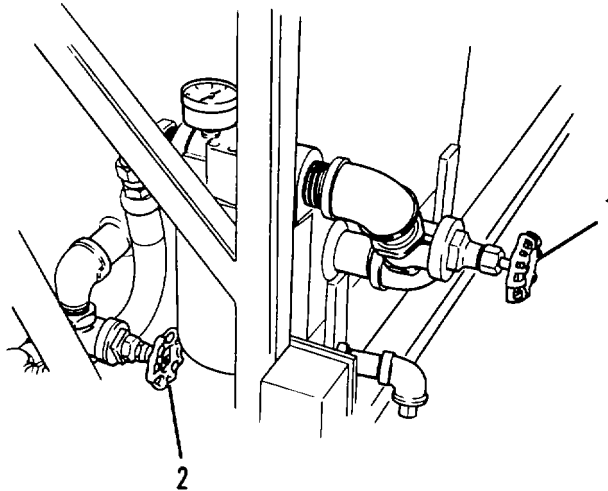

Figure 3-30. Hydraulic System Gate Valves (Sheet 2 of 2).
- (1) Close (turn fully clockwise) the suction and return gate valves (1 and 2, Figure 3-30) at the hydraulic reservoir.
- (2) Place a drip pan below the swivel end of the hose.
- (3) Disconnect the hose at the swivel end. Use two wrenches, one on the fitting and the other on the swivel connector. Allow the fluid to drain into the drip pan.